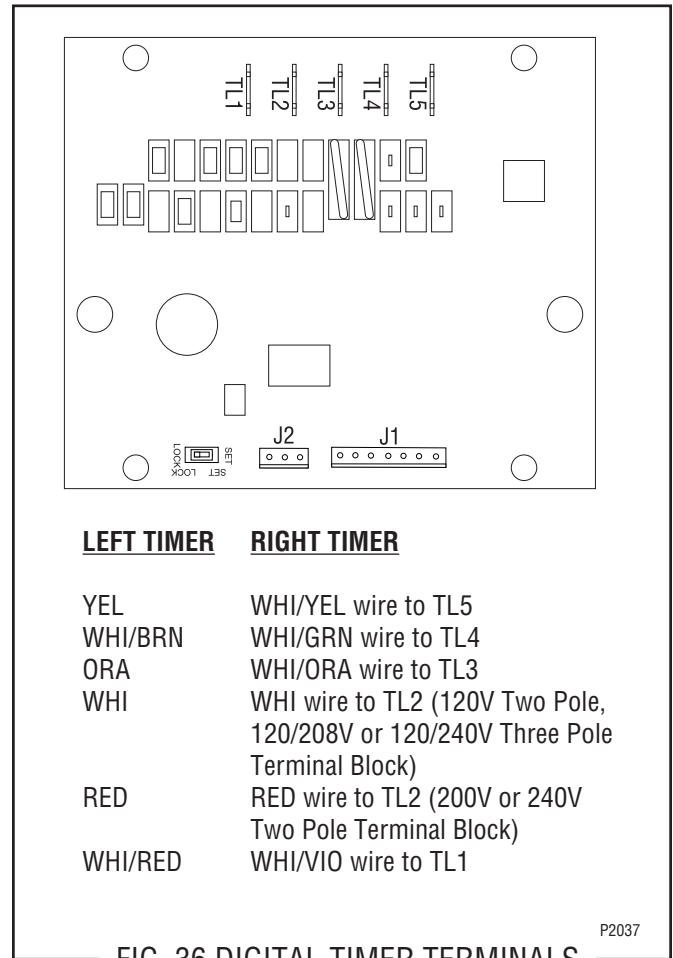

FIG. 36 DIGITAL TIMER TERMINALS
5. Refer to Fig. 36 when reconnecting wires.
4. Attach all wires to the replacement timer board prior to installation to the component mounting bracket. Refer to FIG. 36 when reconnecting the wires.